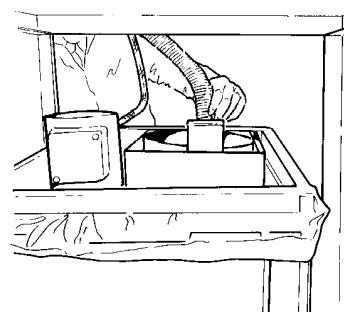

Fig. 2
- Wheel the trolley into the table. Place the return hose in the sieve (fig. 2).